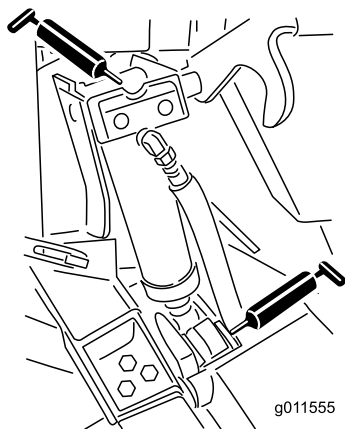

Figure 51
- 4 lift-cylinder bushings (Figure 51)